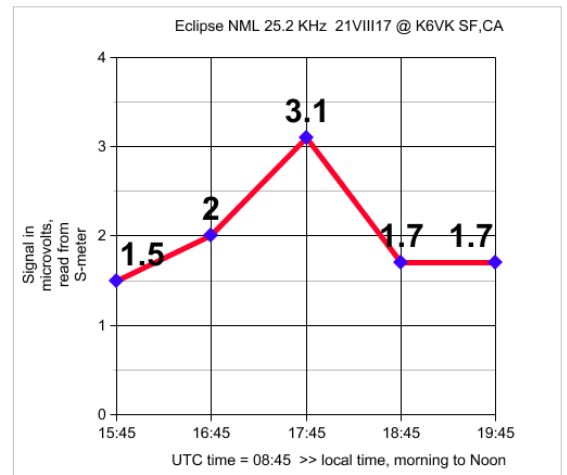

Fig. 2: Graph data from an iPhone — Time-Lapse of G33 SDR Screen.
U.S. Navy station NML in North Dakota transmits data at 25.2 KHz at high power. Its signal path to California crosses the path of totality. I estimated that the intersection would occur in the morning at about quarter to eleven, as shown on the map. A simple set-up produced the results recorded in the nearby graph (figure 2). The signal strength of NML doubled when the path of totality came between the transmitter and my receiver. Before this intersection, about 1.5 microvolts came down the antenna (the usual daytime strength). At the maximum cross of the paths, that shot up to 3.1 microvolts. That strength then decayed back to normal at about the same rate it had increased.
To record the data, I set up my iPhone in a stable jig, pointed at the screen of my WinRadio G33 SDR (software defined radio). Set to time lapse, it recorded about 4 hours of display in 30 seconds of video. I pulled the numbers in the graph (figure 2) from that video.